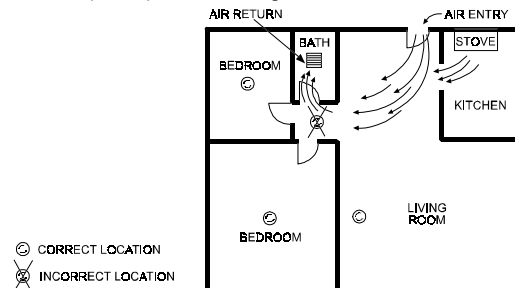

Figure 15. Recommended Smoke Detector Locations to Avoid Air Streams with Combustion Particles
- Do not mount smoke detectors in the path of fresh air intake. The flow of fresh air in and out can drive smoke away from the smoke detector; thus reducing its efficiency. Figure 15 indicates the correct and incorrect locations concerning this problem.